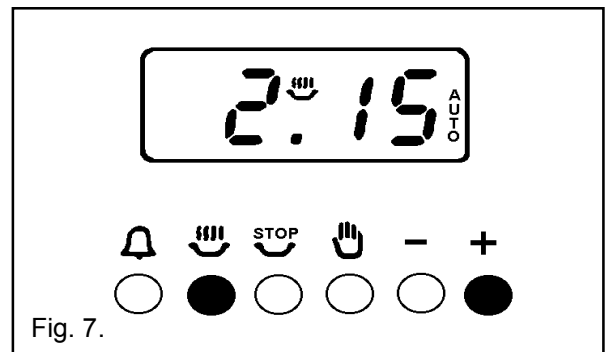

Fig. 7.
- iii) To set the length of cooking time, press the cooking hours button (👉), press the increase control (+) until the cooking time is displayed, e.g. 2 hrs 15 mins. as Fig. 7.